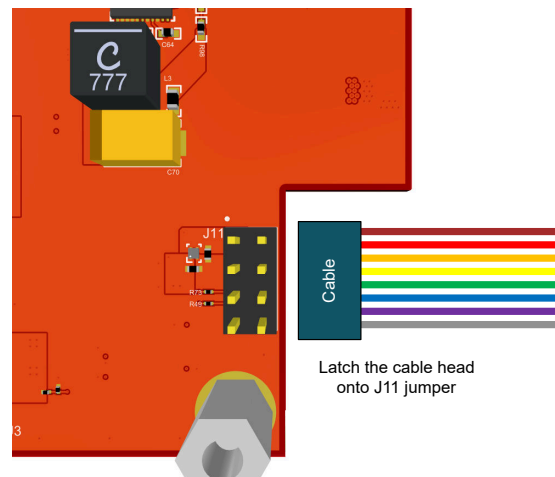

Figure 4-3. Ribbon Cable Connection to J11 Header
3. On the bottom side of the TPS25751EVM, attach the ribbon cable to J11 header as Figure 4-3 shows.